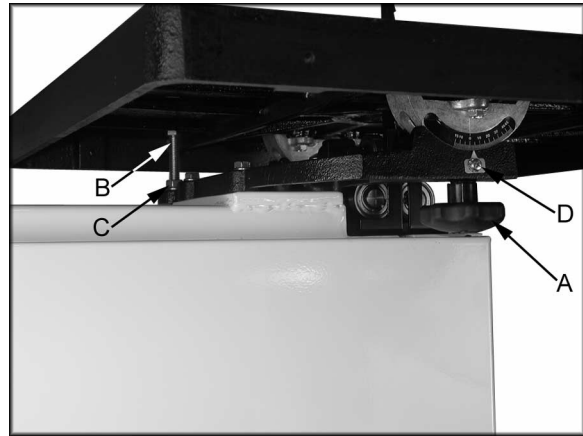

Figure 7
2. Loosen lock knobs (A, Fig. 7) and tilt table until it rests against table stop bolt (B, Fig. 7). Tighten knobs.
5. Loosen lock nut (C, Fig. 7) and turn table stop bolt (B, Fig. 7) until it contacts the table. Tighten the nut (C, Fig. 7) to hold table stop in place. When tightening the nut hold the table stop bolt in place with a wrench to prevent movement.
6. If necessary, adjust pointer (D, Fig. 7) to zero.